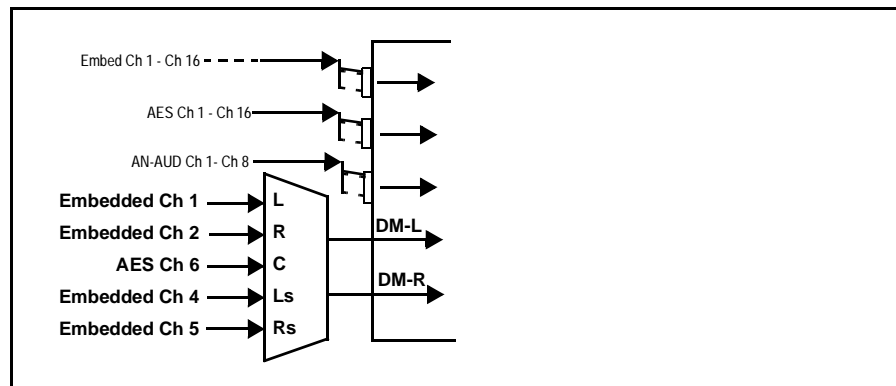

Figure 1-4 Audio Down Mix Functional Block Diagram with Example Sources
(See Figure 1-4.) The audio down mixer function provides for the selection of any five embedded, AES discrete, or analog audio sources serving as Left (L), Right (R), Center (C), Left Surround (Ls), and Right Surround (Rs) individual signals to be multiplexed into a stereo pair (Down Mix Left (DM-L) and Down Mix Right (DM-R)). The resulting stereo pair DM-L and DM-R can in turn be routed and processed just like any of the other audio sources described earlier.